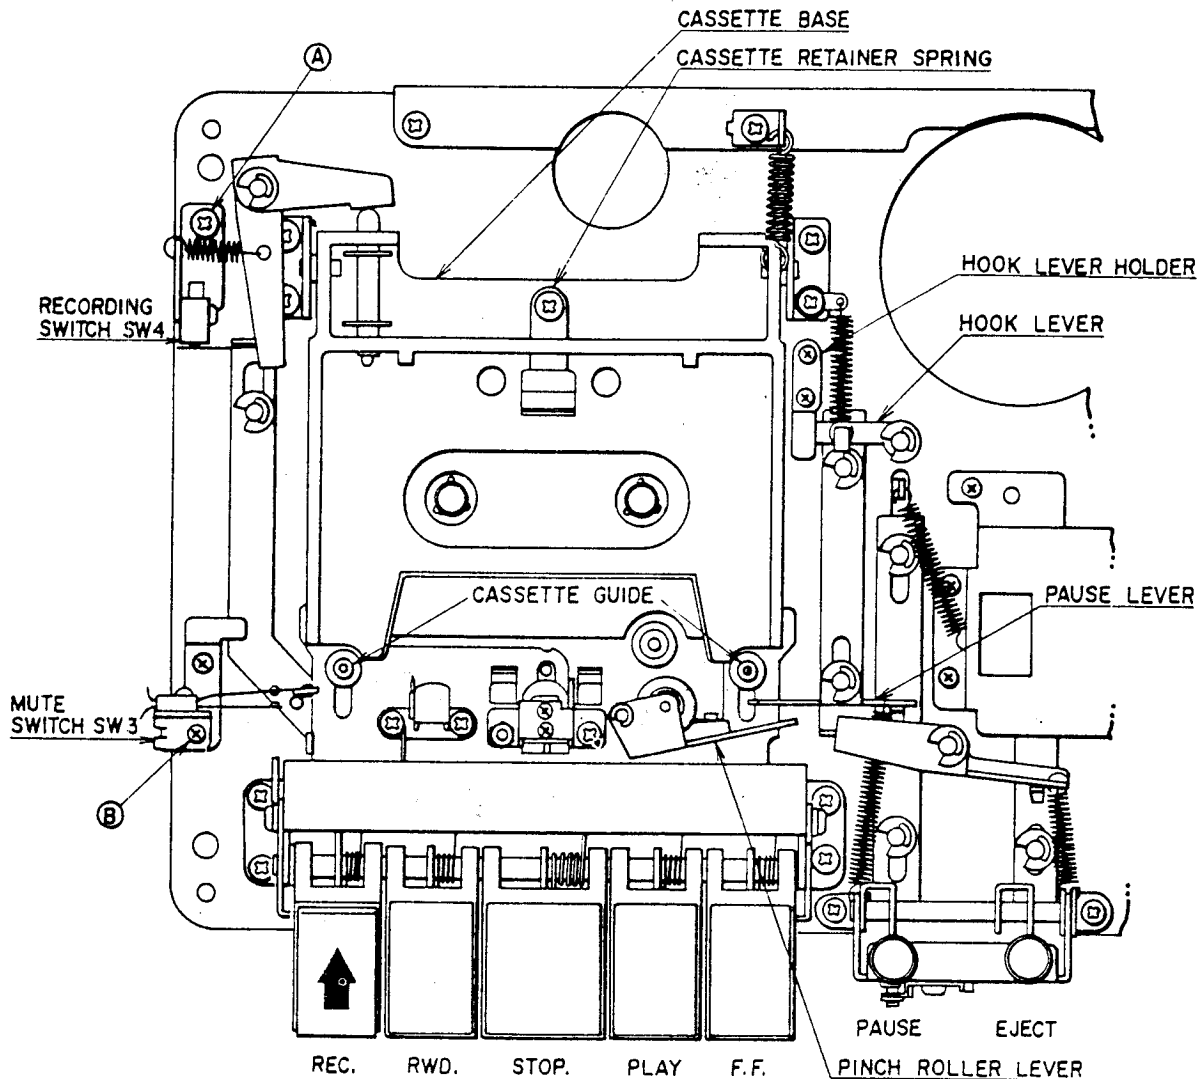

Fig. 8
1. RECORDING SWITCH "SW-4" POSITION ADJUSTMENT (See Fig. 8)
3. PAUSE LEVER POSITION ADJUSTMENT (See Fig. 8)